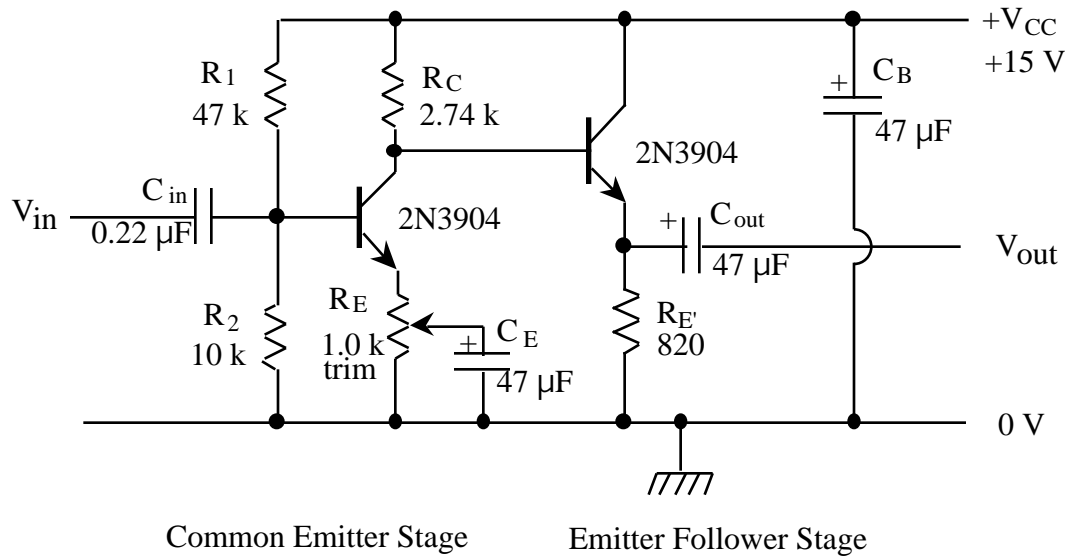

Figure 7.5 Complete Two-stage Amplifier Circuit
Now  $R$  stands for whatever impedance is connected to the base. For our two-stage amplifier shown in Figure 7.5, the emitter-follower base is connected to the collector of a common emitter stage, and so  $R$  is the output impedance of that stage, which is equal to  $R_C$ .
- Calculate the output impedance for the emitter follower circuit shown in Figure 7.5. What fraction of the original output amplitude do you expect to obtain when you attach the  $560\ \Omega$  load to the emitter follower output?
Assemble the emitter follower circuit shown in Figure 7.5. Do not connect the 560 $\Omega$  load to the output yet.